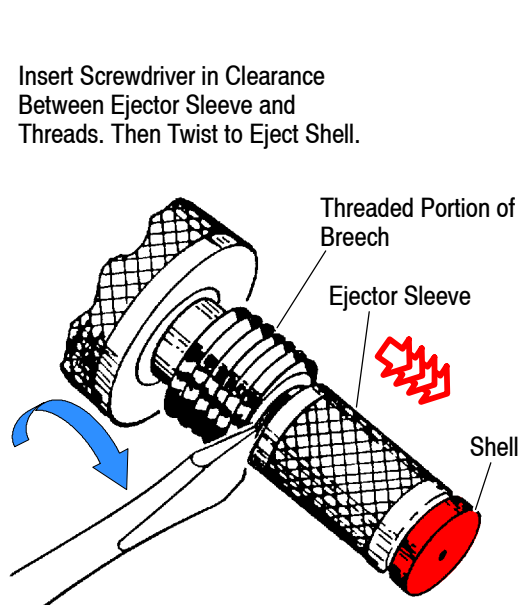

Figure 27
- In the event gas does not release, re-tighten the gas release knob and strike sharply with hammer in an attempt to release the gas. If gas still does not release, remaining gas pressure may cause the shell to stick in the breech. **KEEP FINGERS OUT OF RAM AREA: RAM MAY EXTEND WITHOUT WARNING IF SHELL CONTAINS GAS PRESSURE.** Remove tool from tap by rotating coupling nut counterclockwise. After tool is removed, hold in the vertical position with the tool pointed away from any persons. Grasp tool by coupling nut and remove breech cap assembly. Point the breech in a safe direction, away from personnel and toward the ground. Insert end of screwdriver in clearance between ejector sleeve and threaded portion of breech as shown in Figure 27. Twist the screwdriver to eject the spent shell in a safe direction.